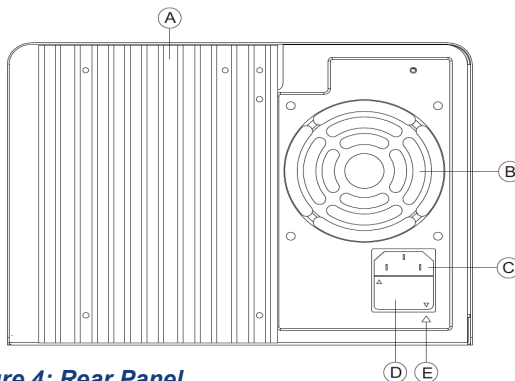
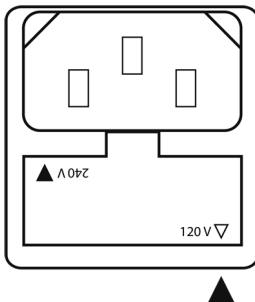

Figure 4: Rear Panel
Figure 5: 120 V Setup
- Locate the fuse box next to the AC input connector in the rear panel (see Figure 4).
The input power voltage indicator is a black arrow ∇ on the rear panel near the AC input connector. See Figure 4, “E”. The fuse holder (Figure 4, “D”) has a both a smaller white arrow ∇ (120 V) and a smaller black arrow (240 V) on it. The fuse holder should be rotated so that the fuse holder arrow of the appropriate voltage is pointing to the larger black input power voltage indicator arrow. See Figures 5 & 6 below.